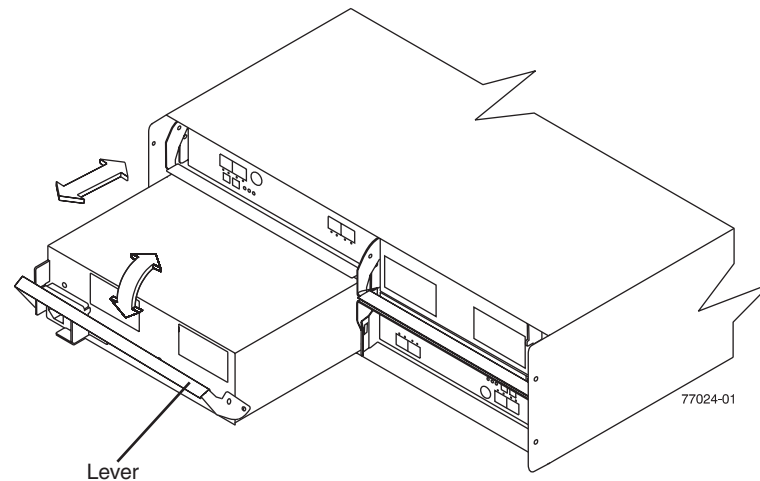

Figure 36. Replacing a power supply and fan unit
Use the following procedure to replace an ac power supply and fan unit. Figure 36 on page 85 illustrates removing and inserting a unit.
11. Slowly pull the lever away from the chassis to remove the power supply and fan unit, as shown in Figure 36 on page 85.